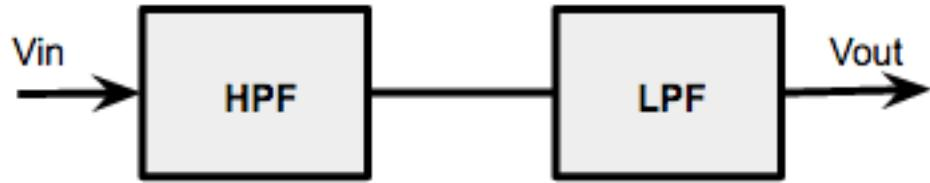

Figure 9. Block diagram for band-pass filter.
1. Using both the HPF and LPF you previously built, build a band-pass filter as shown in Figure 9.